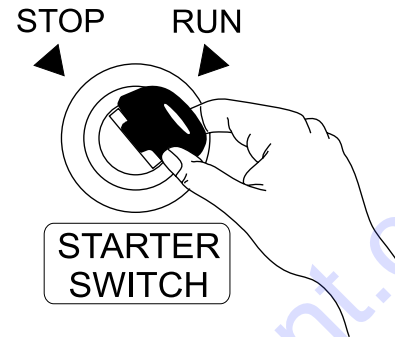

Figure 50. Ignition Key (STOP Position)
4. Place the ignition key (Figure 50) in the **STOP** position.
Place the ignition key (Figure 50) in the **STOP** position.